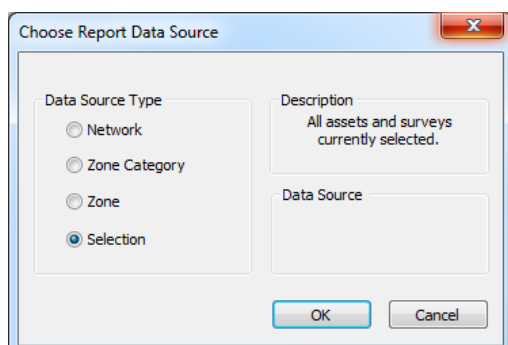

Figure 11 - Infonet Screenshot 6
14. A box will open, choose selection and click OK and provide save location. See Figure 11.